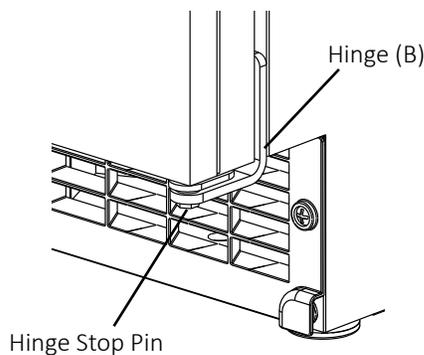

Fig. 21
9. Attach the door to hinge (A), then continue to maintain a hold on the door. Screw the hinge stop pin into hinge (B) until it is tight (See Fig. 21).